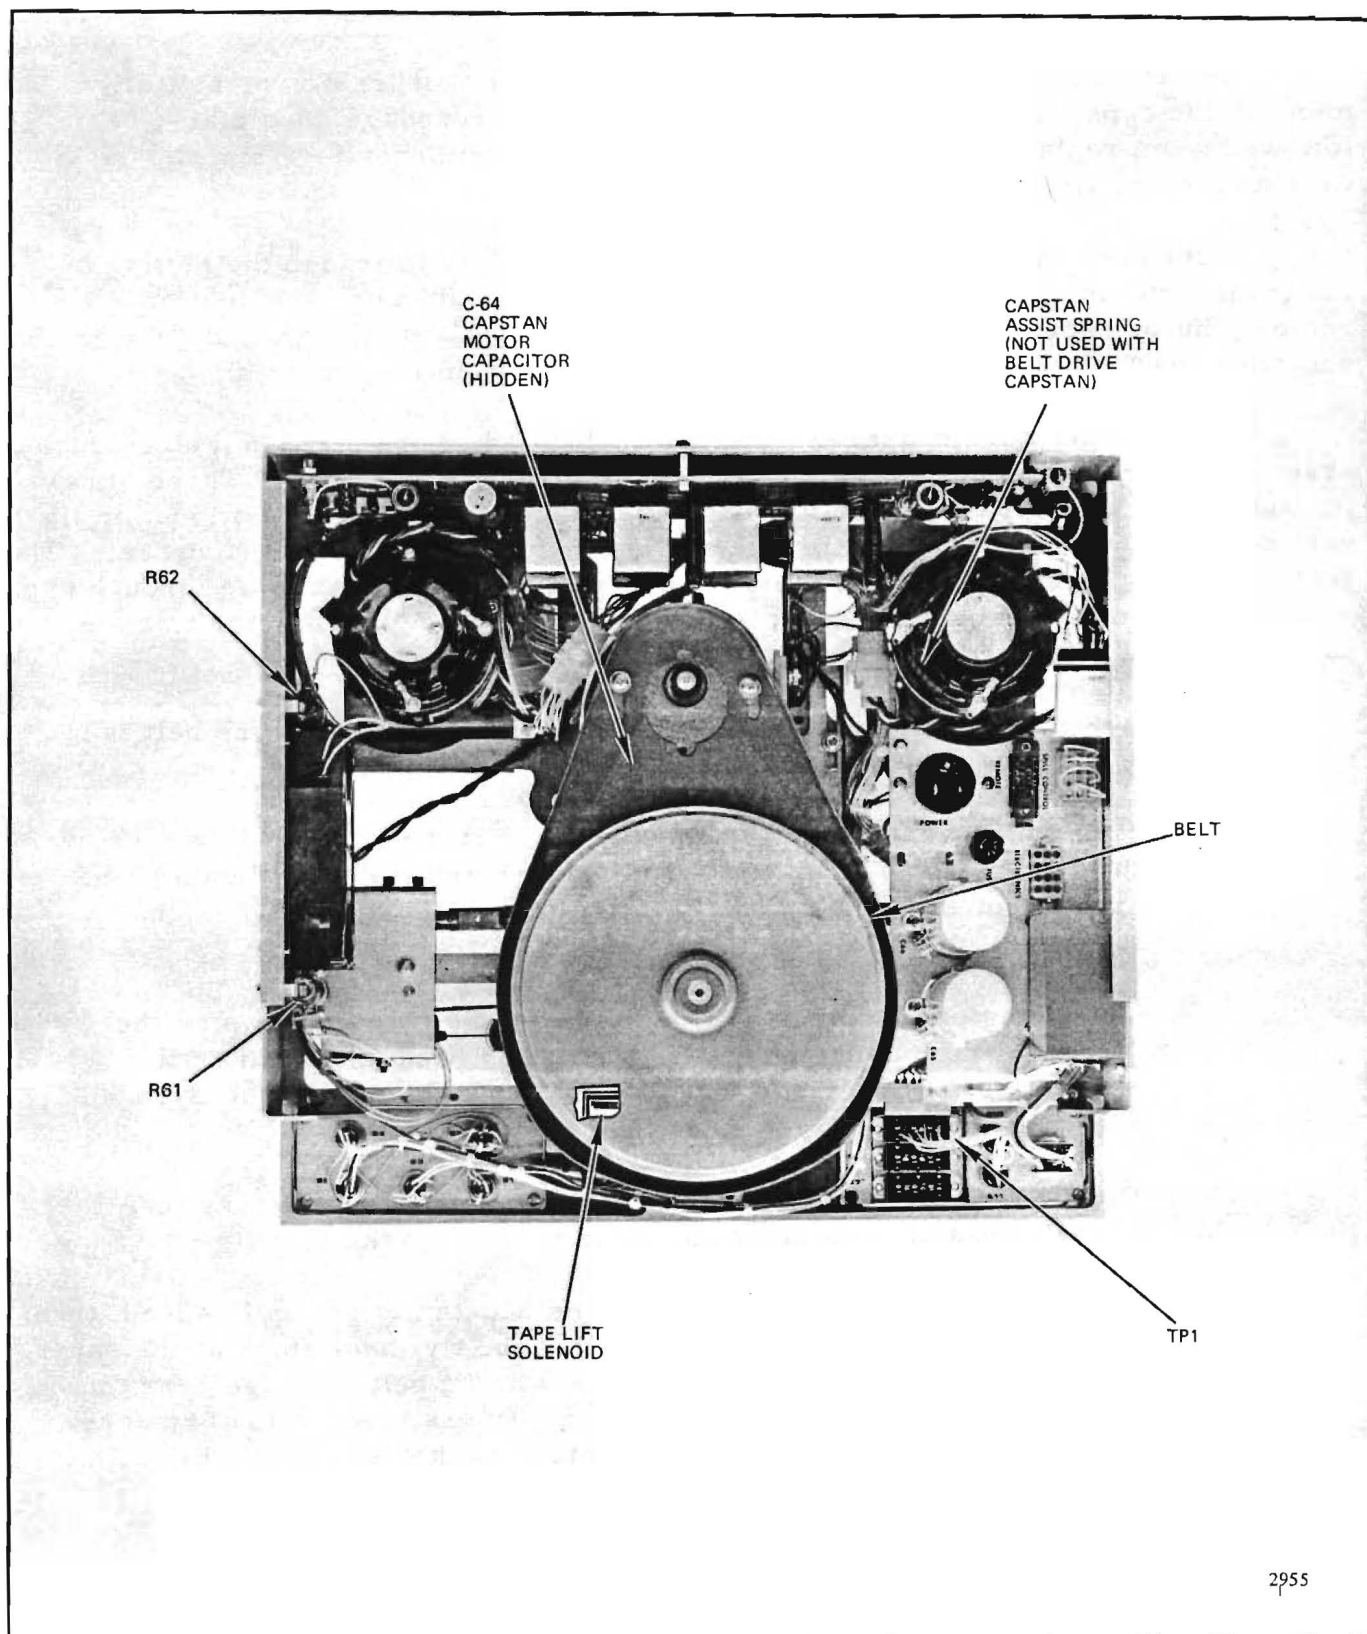

Figure 18. Tape Transport Adjustments, Bottom View
Access to the belt drive assembly is accomplished through the bottom of the transport, as shown in figure 18. To expose the belt inside the dust cover, remove the two screws on the front and the two screws at the rear of the cover, and slide the lower half of the cover down and away from the top section.
44. The tape lifters must swing out fully whenever the tape is in REWIND or FORWARD mode, or in the process of stopping. When released, they must fall back fully so as not to interfere with normal tape motion over the heads. Test their action at the start of a reel, in the center of a reel, and at the end of a reel to be sure they always operate fully and release fully. Check that they do not chatter when the tape reverses direction between FORWARD and REWIND modes. The tape lifters are adjusted by loosening the screw in the end of the shaft, and changing the position of the tape lifter solenoid plunger with respect to the lifter. This can be accomplished from the underside of the transport as shown in figure 18.